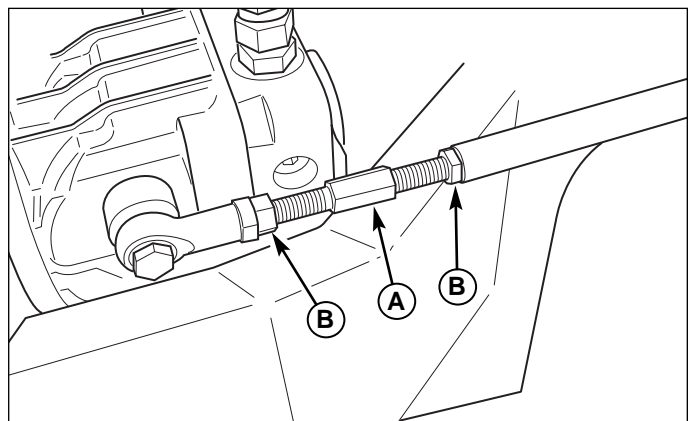

Figure 33. Neutral Adjustment
2. Loosen the jam nuts (B, Figure 33) and turn the adjustment linkage (A) to adjust. If the machine creeps forward, turn the linkage CLOCKWISE (while standing at the rear of the machine, facing forward), if the machine creeps backward, turn the linkage COUNTER-CLOCKWISE.
3. Lock the jam nuts (B) when neutral is achieved.